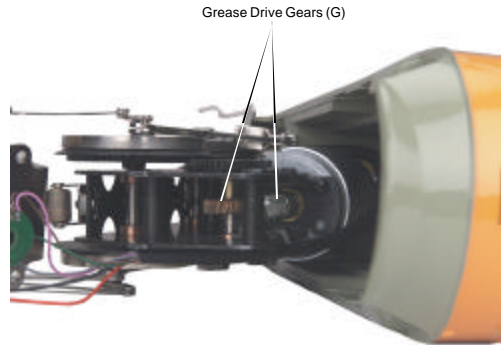

Figure 8: Removing The Leading Truck
1. To access the drive train, remove the cab from the chassis by unscrewing the (6) screws attaching the leading truck mounting plate and side rod linkage as seen in Figure 8. Once removed, remove the remaining four screws to detach both the smoke unit/headlight mounting plate and the drive train from the boiler.